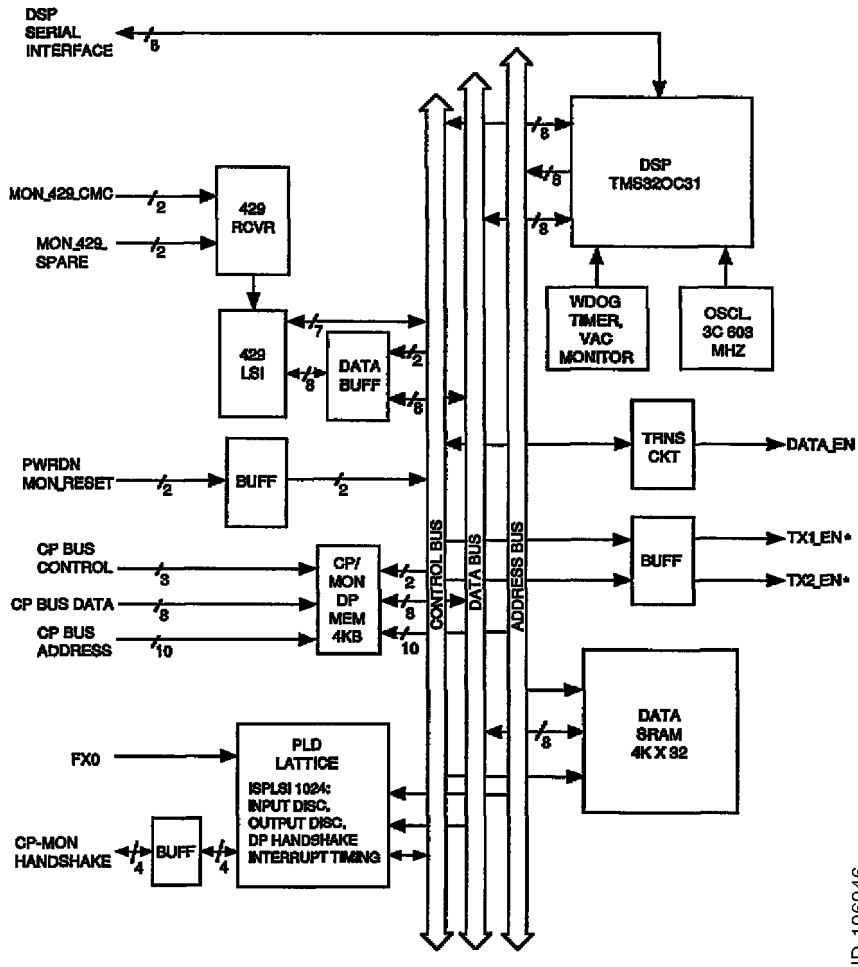

Figure 7. (Sheet 1 of 1) Monitor Processor Block Diagram (GRAPHIC 34-42-37-99B-808-A01)
(1) General
- (a) The main component of the monitor processor module is the Monitor Processor CCA. See Figure 2003 (GRAPHIC 34-42-37-99B-813-A01) for the schematic diagram of the monitor processor CCA. See Figure 7 (GRAPHIC 34-42-37-99B-808-A01) for the overall block diagram of the monitor processor CCA.